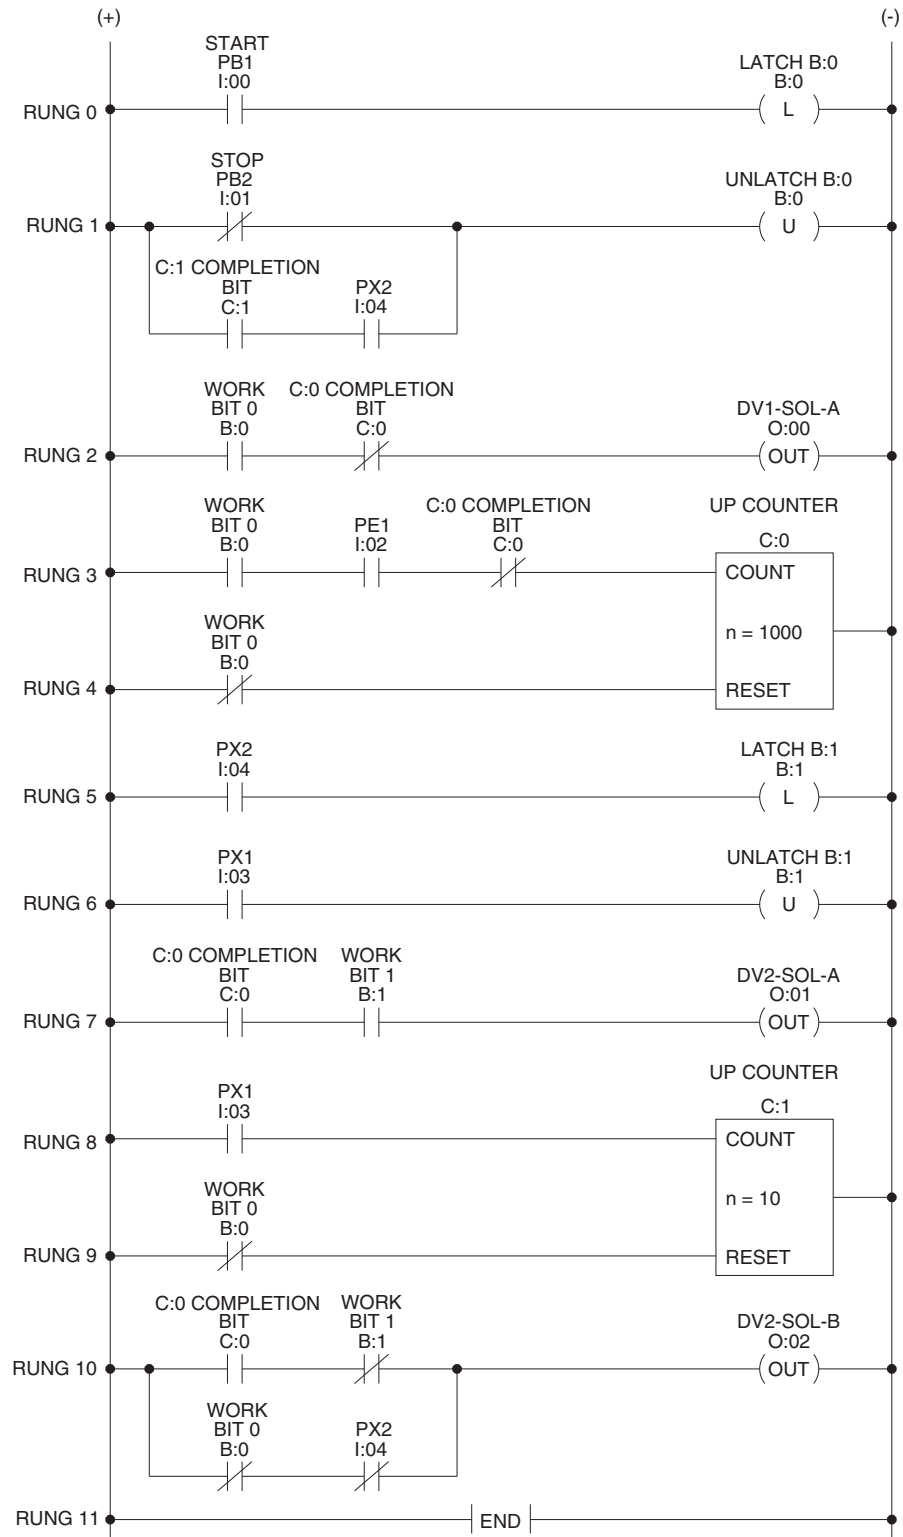

Figure 6-2. PLC ladder program used to make a motor rotate 1000 turns and then reciprocate a cylinder 10 times.
- 4. Enter the PLC ladder program in Figure 6-2.
- 11. Cycle the system a few times and monitor the PLC program as it is executed. What causes the motor to start rotating when PB1 is pressed? Explain by referring to the PLC ladder program in Figure 6-2.
4. In the PLC ladder program of Figure 6-2, what purpose is served by N.C. contact instruction C:0 on rung 3?
5. In the PLC ladder program of Figure 6-2, what purpose is served by N.C. contact instruction B:0 on rung 4?